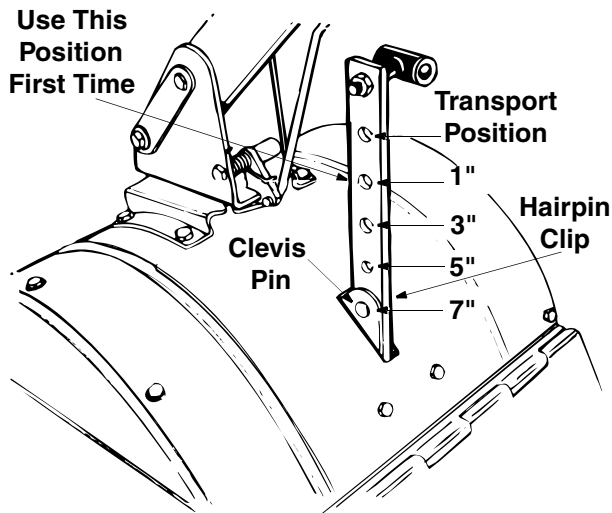
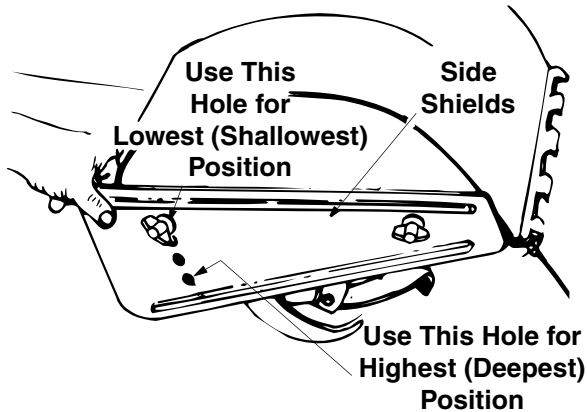

Figure 12
Figure 13
**WARNING:** When operating the tiller for the first time, use the depth stake setting that gives 1 inch of tilling depth (second hole from the top). Refer to Figure 12.
Tilling depth is controlled by the depth stake which can be adjusted to five different settings. See Figure 12. Adjust the side shields as shown in Figure 13, as you adjust the depth stake. Be certain spark plug wire is disconnected and grounded against the engine.
- When using the tiller for the first time, use the second adjustment hole from the top (1" of tilling depth). See Figure 12.
To adjust the depth stake, remove the clevis pin and hairpin clip. See Figure 12. Move the depth stake to the desired setting. Secure with the clevis pin and hairpin clip.
To adjust the side shields, remove the wing nuts. See Figure 13. Move the side shield to the desired position. Replace the wing nuts. Tighten securely.